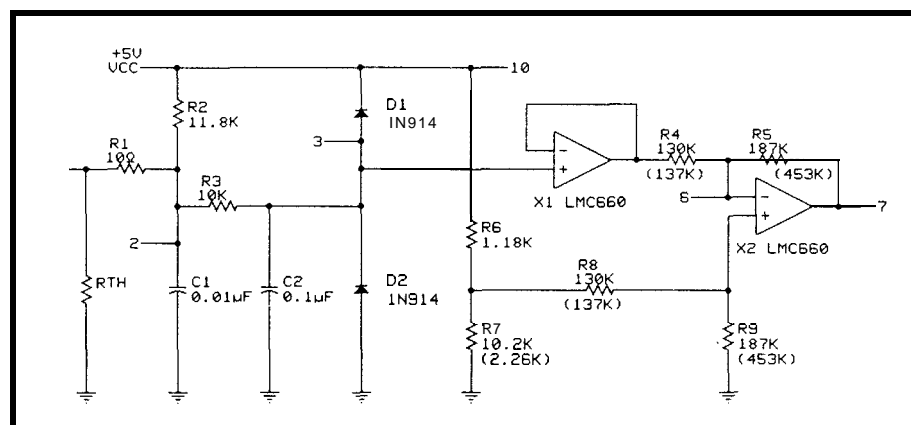

Figure 9—The high- and low-resolution circuits differ only by a few component values.
The circuit is shown in Figure 9. The bridge consists of resistors R_2 , R_{TH} , R_6 , and R_7 . X_1 , an LMC660 op-amp, matches the impedance of the input stage to the differential amplifier X_2 . The resistors R_6 and R_7 are
The output node of Figure 9 is node 7. To determine the sensitivity of node 7, the statement `SENS V (7)` is placed into Listing 5. The output file will contain the results shown in Table 4.